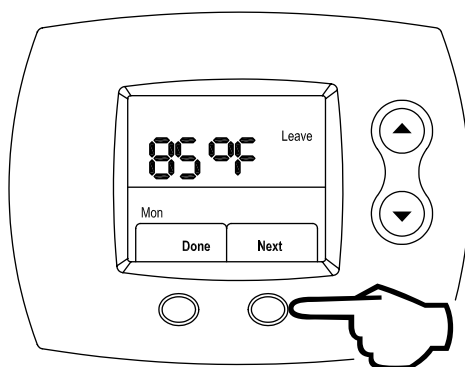

Figure 61
Step 14: Press the **RIGHT** (Next) button to lock in the Leave period water temperature, as shown in Figure 61.